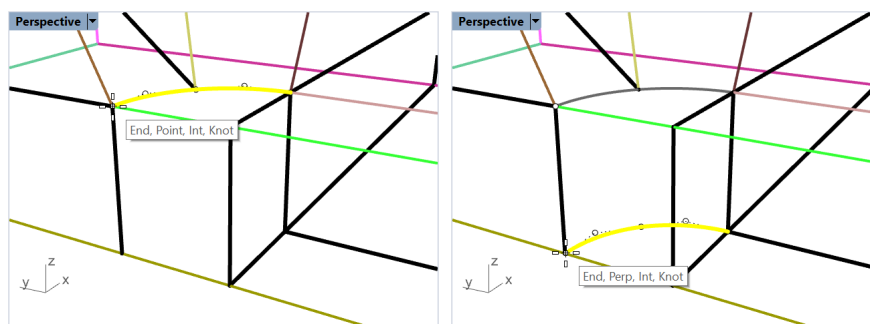

Figure 40: Copying the arcs.
11. Select the bottom two arcs and copy them using the **\_Copy** command. For *Point to copy from*, select the left corner of the arcs as shown in Figure 40, then, within command options, click on *Vertical* to set it to *Yes*, and drag the corner down until it hits the bottom line and the mouse tooltip is as in Figure 40.